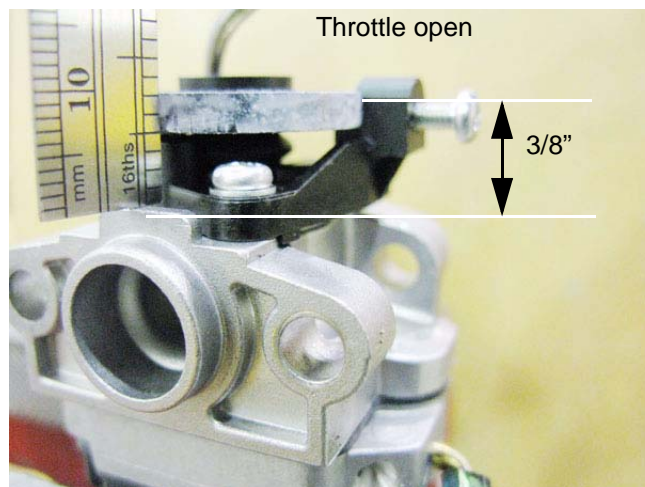

Figure 5.14
7. As the throttle drum rotates, it also climbs-up a ramp. The rising throttle draws the fuel metering needle out of the orifice in the venturi of the carburetor. See Figure 5.14.